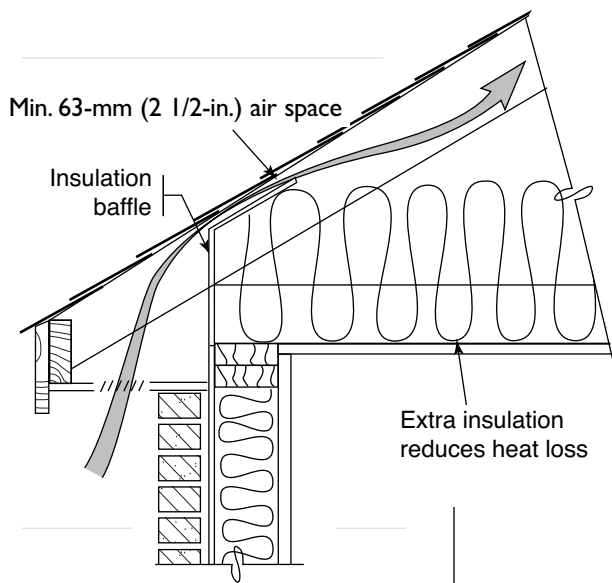

FIGURE 13
- ◆ The use of prefabricated baffles will allow for air flow between the ceiling insulation and the underside of the roof sheathing. This will keep the roof surface cooler and help reduce the amount of melting (see Figure 13).